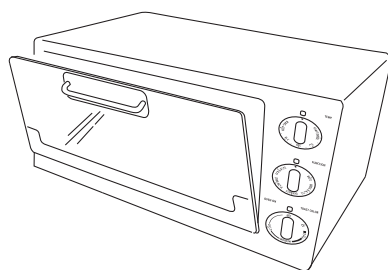

fig. 1
- Place the food to be grilled on the broil rack (P) inserted on the bake pan (H), and place them together in the guide 1.
- Close the door until you hear a “click” (see figure 1).
- Turn the function selector knob (D) to the  position.
- Rotate the timer knob (B) in a clockwise direction.
- After cooking, manually turn the Timer knob (B) back to “0” position.
- Turn the thermostat knob (A) to position .
- Turn the function knob (D) to position .